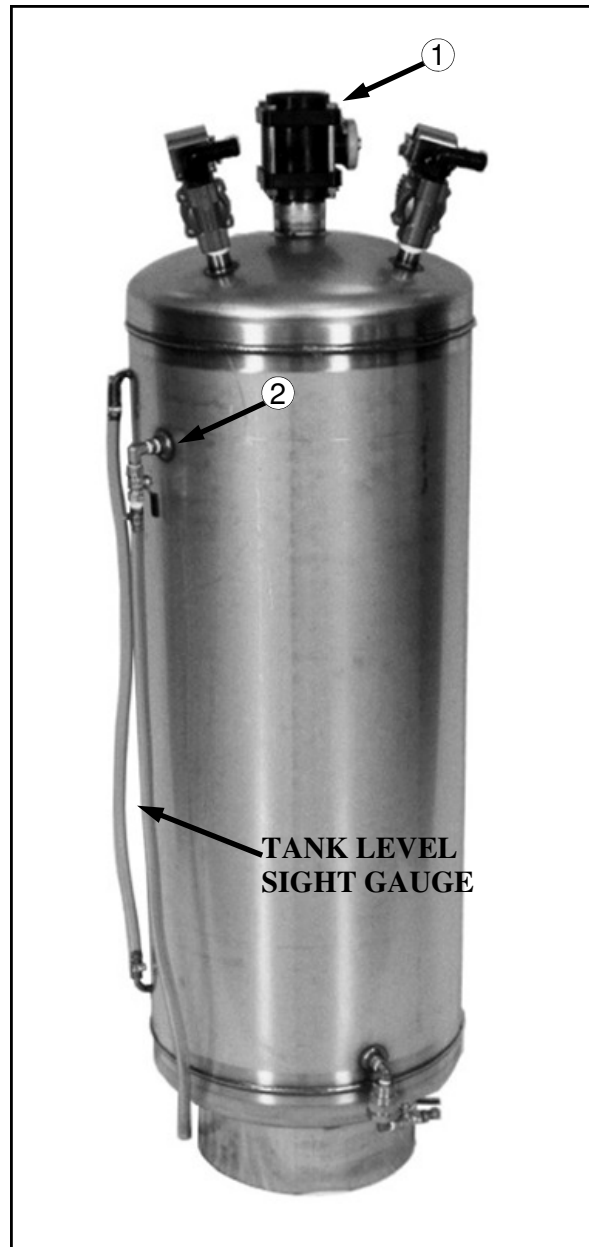

FIG 4.11D-1
**FILLING THE FOAM MARKER SYSTEM**– Relieve pressure from the foam tank by opening the ¼” ball valve on the side of the foam tank (fig. 4.11D-1, item 2). Close the ball valve after pressure is relieved. Open the top 2” ball valve (fig. 4.11D-1, item 1). Add water to the tank, leaving enough room for the foam concentrate. Next add the foam concentrate according to the label on the container. After filling is complete, close the 2” ball valve on top of the tank. Start the sprayer’s engine and adjust the air pressure accordingly (see previous page).